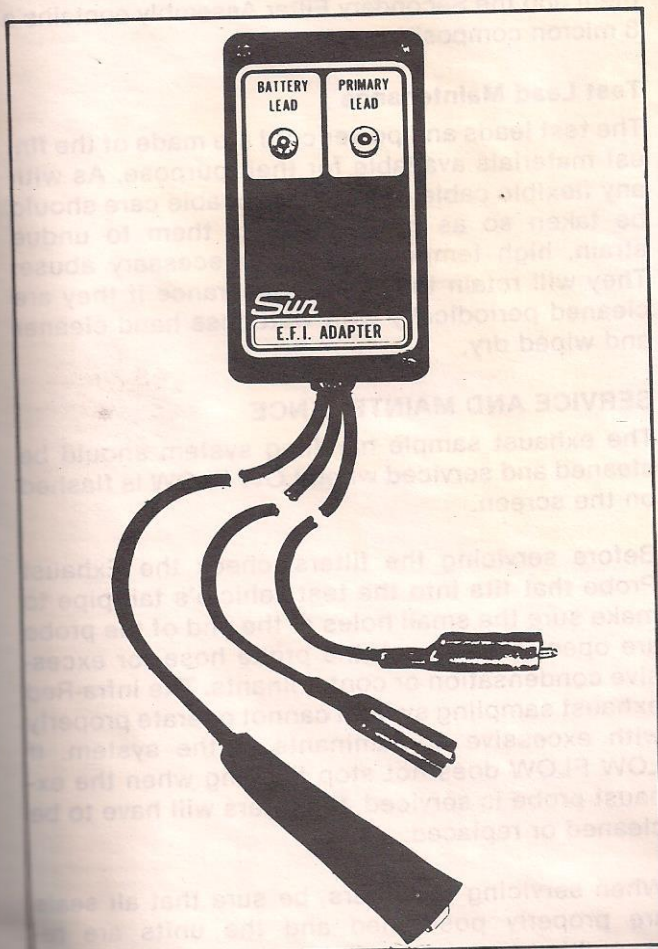

FIGURE 39—Electronic Fuel Injection Adapter.
1. Connect the E.F.I. Adapter (Electronic Fuel Injection Adapter, Figure 39) as follows: